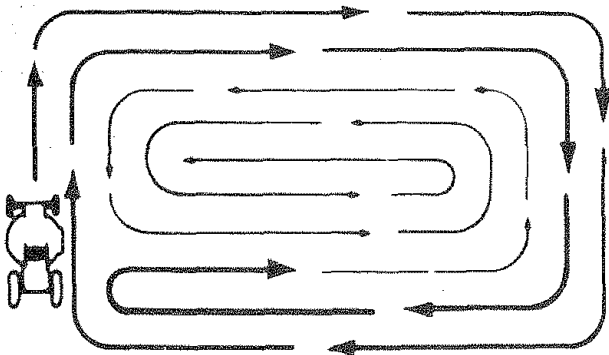

FIGURE 17
- When mowing large areas (Fig. 17), start by turning to the right so that the clippings will discharge away from shrubs, fences, driveways, etc. After one or two rounds, mow in the opposite direction making left hand turns until finished.